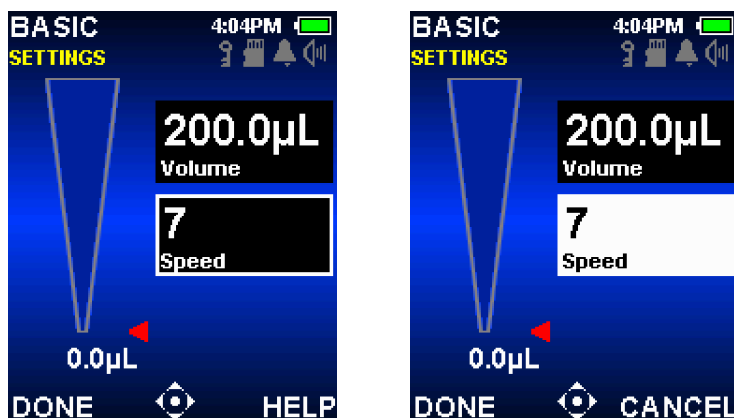

Figure 10: Basic Mode with Speed Highlighted (left), and Speed in Edit Mode (right).
5. **DONE** or ● to save the volume setting. **CANCEL** to exit without saving changes. The next setting, speed, will be highlighted (Figure 10 left).
6. ● or ▶ to edit the Speed Setting. The settings box will turn white to indicate it is in edit mode (Figure 10 right). In Basic Mode, the same speed is used for both aspirate and dispense. ◀ or ▶ for coarse speed adjustment of 1, 5 or 10 and ▲ or ▼ for fine adjustment in single digits. Hold the joystick in place to quickly scroll through values.